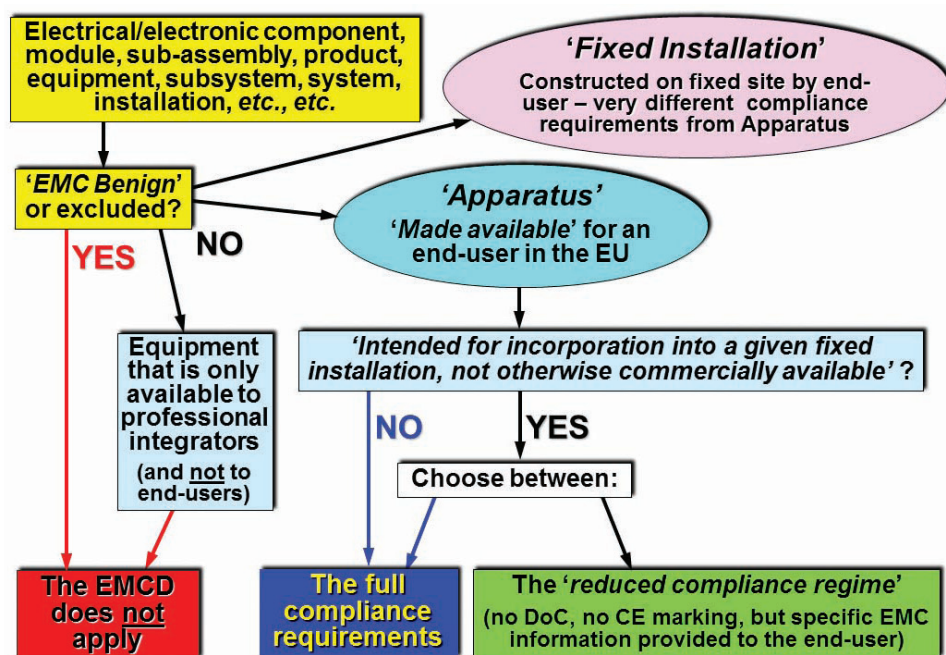

Figure 1: Applying the EMC Directive
The EMCD applies to both *apparatus* and *fixed installations*, with special legal meanings for both of these otherwise commonplace terms. Figure 1 shows that apparatus is treated very differently from fixed installations.
1. Mistakenly assuming that every item of equipment that carries a CE marking must perform comply with the EMCD. This article describes three ways in which this assumption can be wrong, all of which are shown in Figure 1.